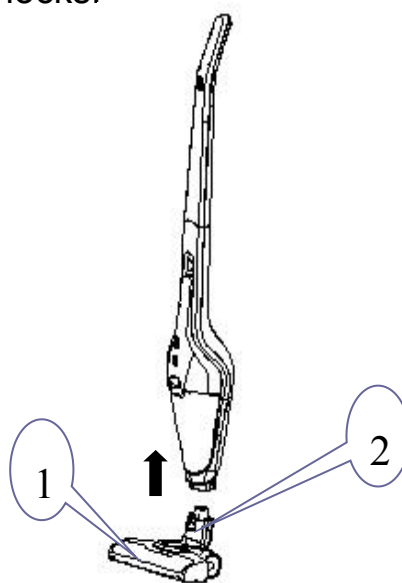

Fig. 3-2
To insert the Floor Brush (1) to the Body along the direction shown on the illustration Fig.3-2 until the Lock Button (2) locks.